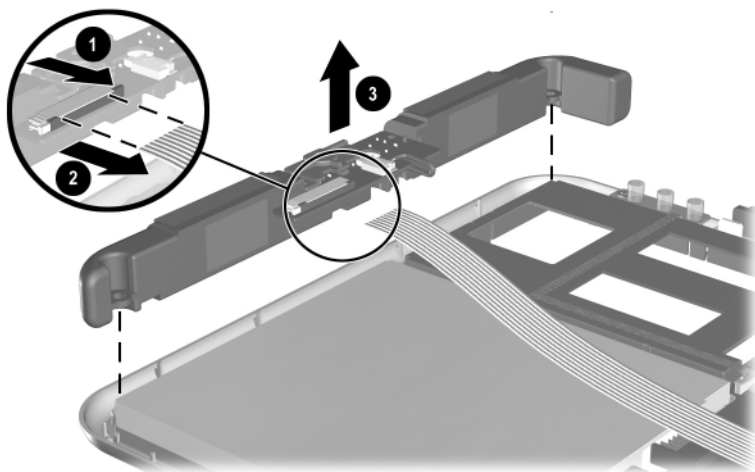

Figure 5-17. Removing the Speaker Assembly
4. Release the ZIF connector ❶ to which the speaker cable is attached and disconnect the cable ❷ from the speaker assembly (Figure 5-17).
5. Remove the speaker assembly ❸ from the base enclosure.